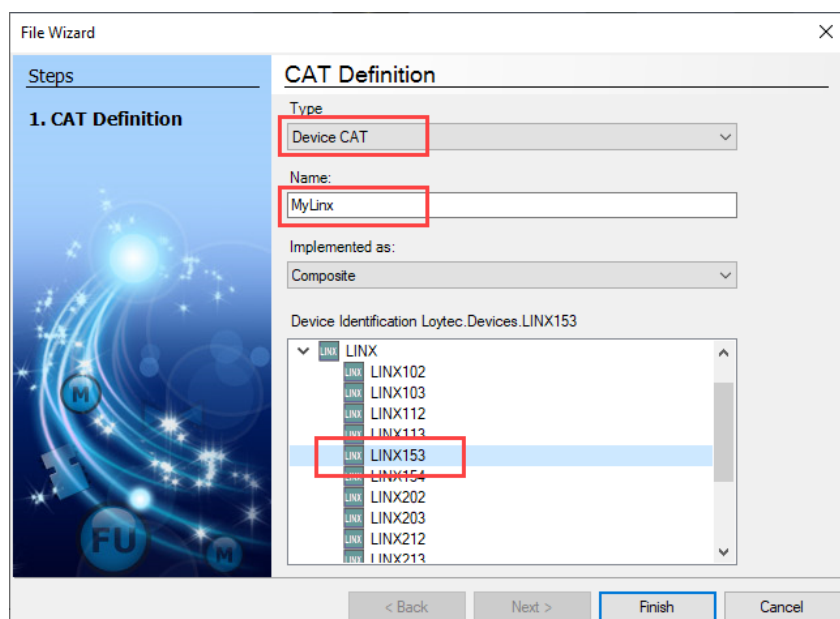

Figure 50: Create a new device CAT.
17. As a next step it is necessary to create a device type. In the 'KickStart' solution tree, select **CAT** → **Application**. Then right-click and choose **New Item**. Select Device CAT, enter a name and choose the device model, e.g. LINX-153, as shown in Figure 50.